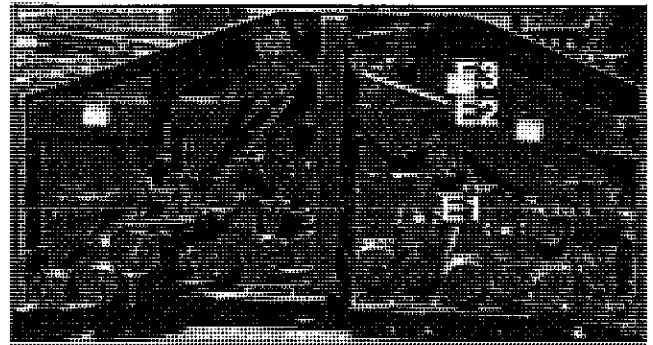

Figure 2.37: Left Hand Drive.
E. Left hand drives. (See Figure 2.37)